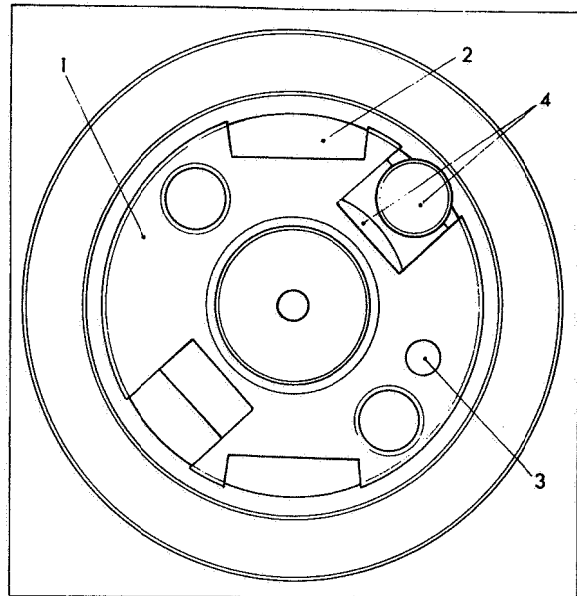

Fig 86 Roller & shoe assemblies
Position hydraulic head on bench with machined surfaces uppermost as viewed from top in Fig 86. Remove distributor rotor (1) and place bottom stop plate (2) with its chamfered edges uppermost on hydraulic head. Replace distributor rotor, align dowel holes in distributor rotor and bottom stop plate and insert stop plate dowel (3).